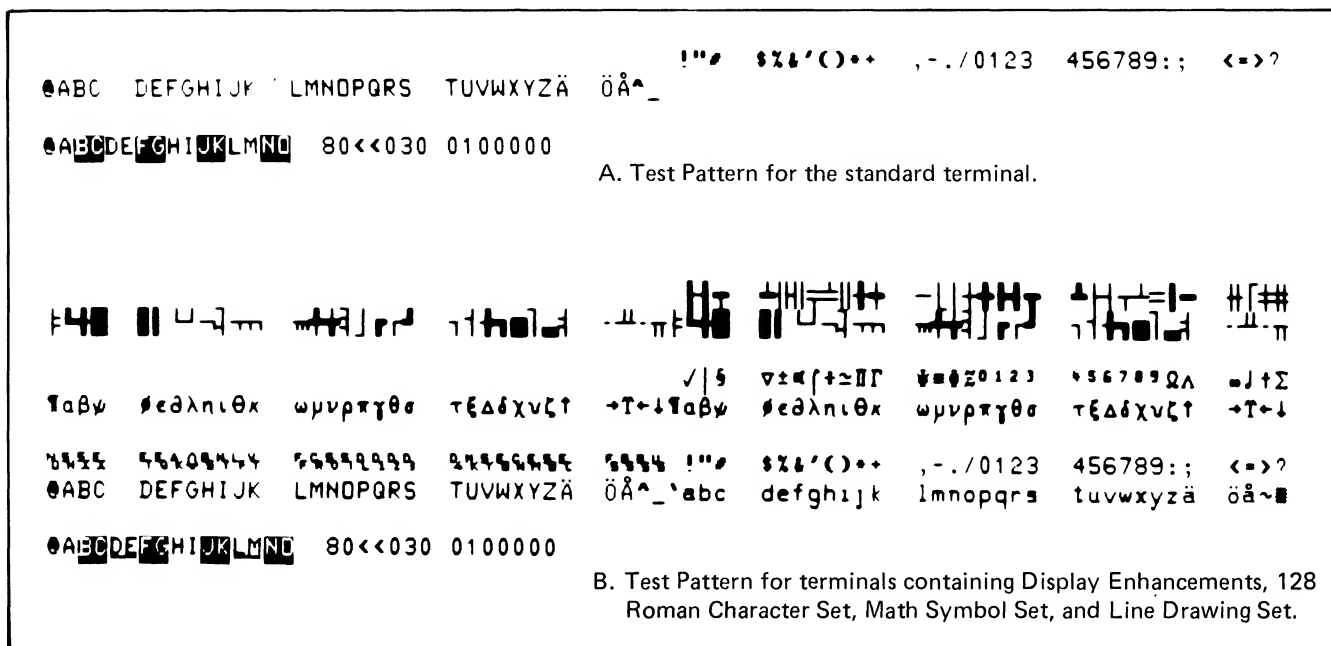

Figure 7-39. Basic Self-Test Patterns (HP 2645S)
b. Basic self-test patterns for the HP 2645S and HP 2645N are given in figures 7-39 and 7-40, respectively.